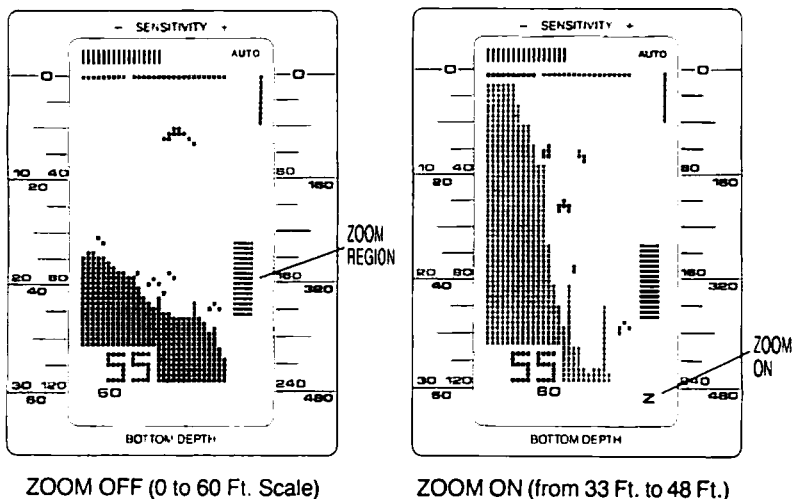

FIGURE 15
First, position the Zoom Region (See fig. 15) next to the area that you want to expand by pressing the set and then the ▲ or ▼ button. Next, by pressing the Zoom On/Off button the Zoom will be activated. You will notice that the letter Z appears in the lower right hand corner of the display, indicating that the Zoom is on. You will also notice that the entire screen has been changed to show an expanded view of the area from the top of the Zoom Range to the bottom of the Zoom Range. The LCR4000D's Total Screen Update™ feature allows you to zoom in on an area even after you have passed over it. Figure 15 shows two screens, one with Zoom off and one after turning Zoom on.
- B. The Zoom Range indication at the right of the display can be used for depth reference. For example in Figure 15 the Zoom Range is set between 33 feet and 48 feet. This means that when the Zoom is activated that you are looking at an expanded view of the area from 33 feet to 48 feet.